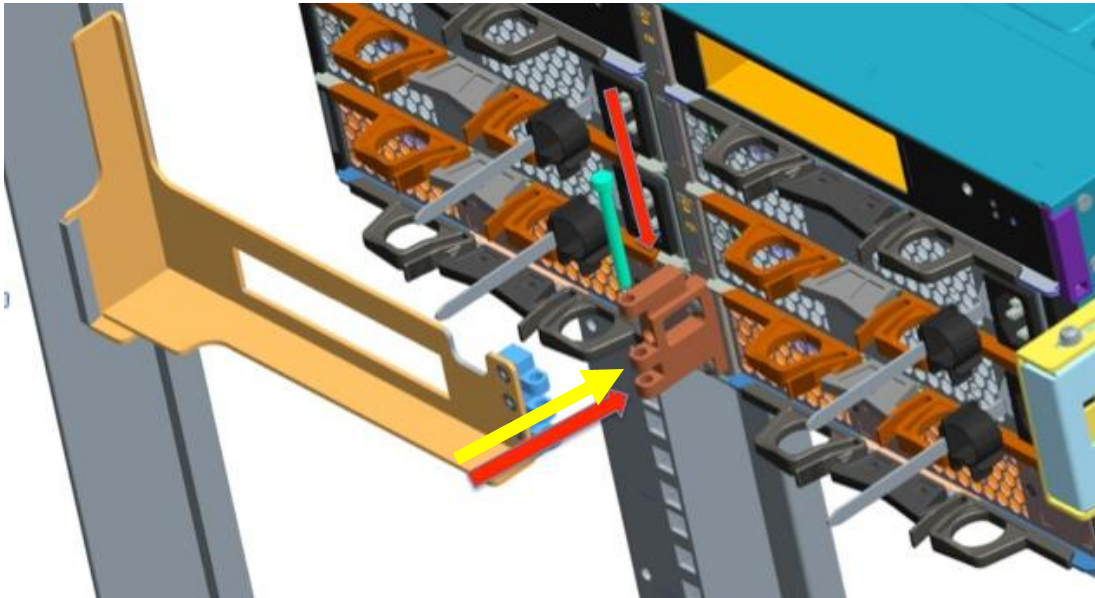

Figure 20. **Putting CMA Arm on CMA Hinge**
- Put CMA arm on CMA hinge located on IceBreaker 4960J chassis (Figure 20).